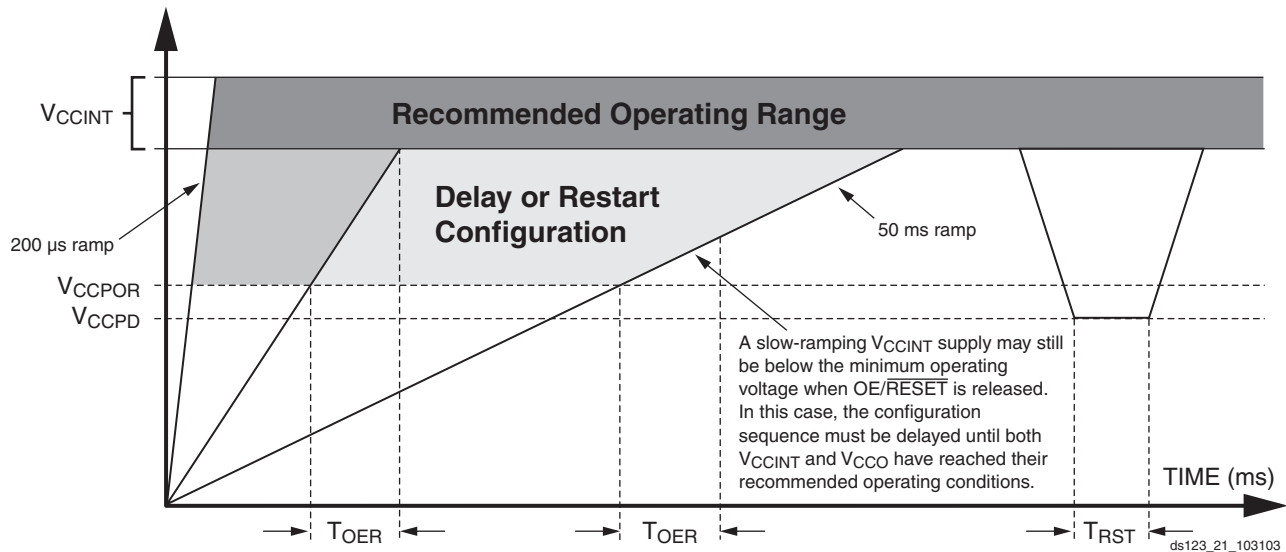

Figure 8: Platform Flash PROM Power-Up Requirements
FPGA's INIT pin is pulled High allowing the FPGA's configuration sequence to begin. If the power drops below the power-down threshold (V_{CCPD}), the PROM resets and OE/\overline{RESET} is again held Low until the after the POR threshold is reached. OE/\overline{RESET} polarity is not programmable. These power-up requirements are shown graphically in **Figure 8**.
- At power up, the device requires the V_{CCINT} power supply to monotonically rise to the nominal operating voltage within the specified T_{VCC} rise time. If the power supply cannot meet this requirement, then the device might not perform power-on-reset properly. See Figure 8, page 12.